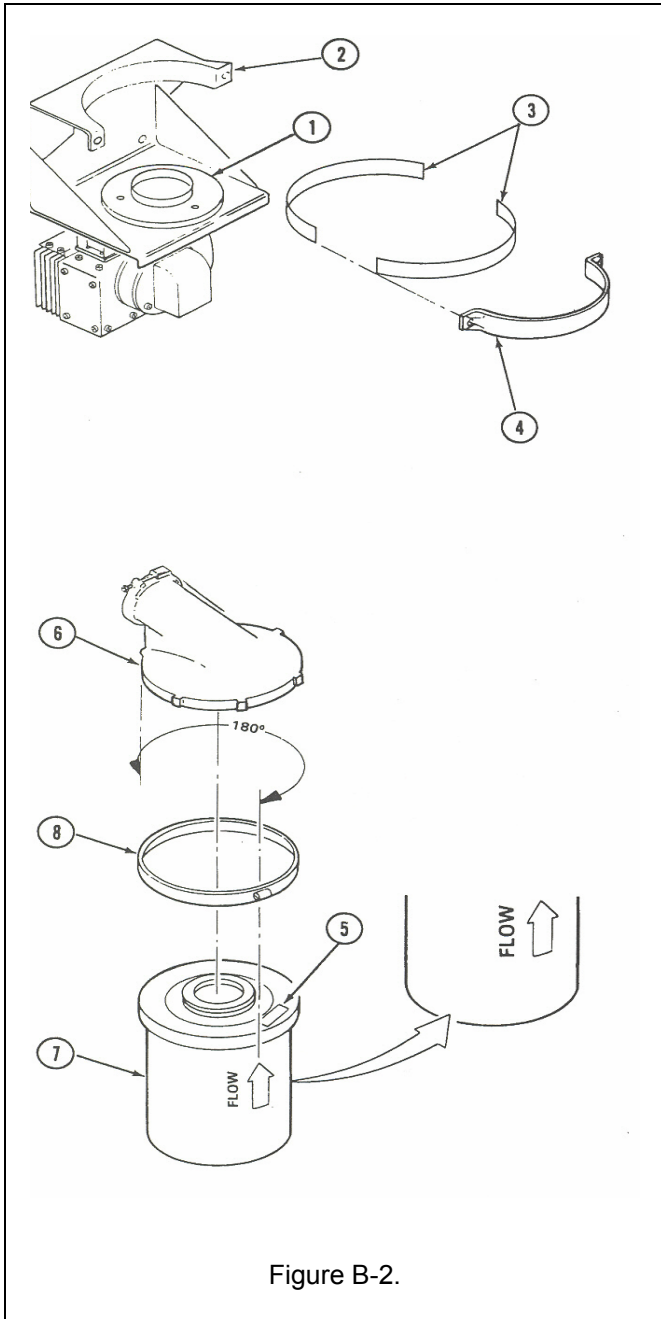
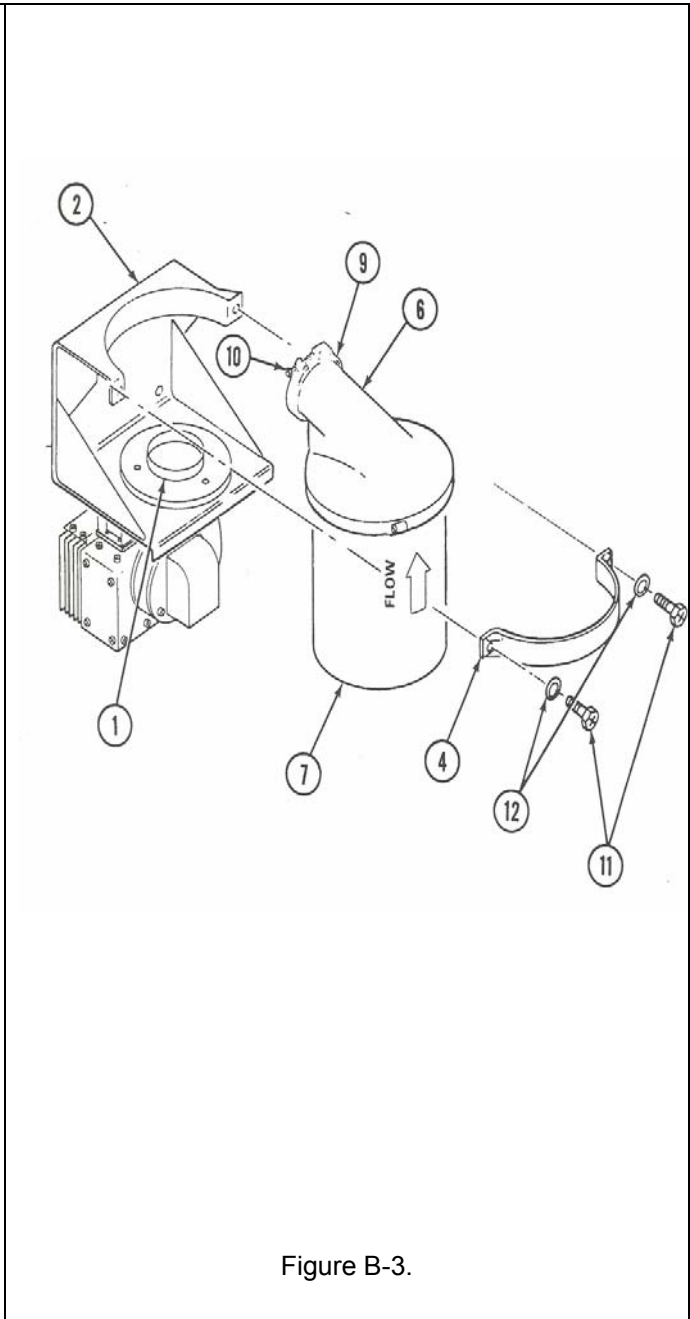

Figure B-2.
Figure B-3.
1. Inspect support collar (1) on support bracket (2) (see figure B-2). Replace if damaged or worn.
1. Mark installation date on M48A1 filter canister identification plate (5) in space provided (see figure B-2).
2. Secure outlet transition (6) to filter canister (7) with hose clamp (8).
3. Place filter canister (7) on support collar (1) so that flow arrow is visible and pointing up toward outlet transition (6) (see figure B-3).
4. Position assembled filter canister (7) and outlet transition (6) in support bracket (2), ensuring outlet transition aligns with shelter inlet. Ensure filter canister (7) seats properly on support collar (1).
5. Secure retaining strap (4) to support bracket (2) using two bolts (11) and washers (12).
6. Position assembled clamp grooved coupling (9) and outlet transition (6) on shelter inlet, and secure by tightening nut (10) (see figure B-3).